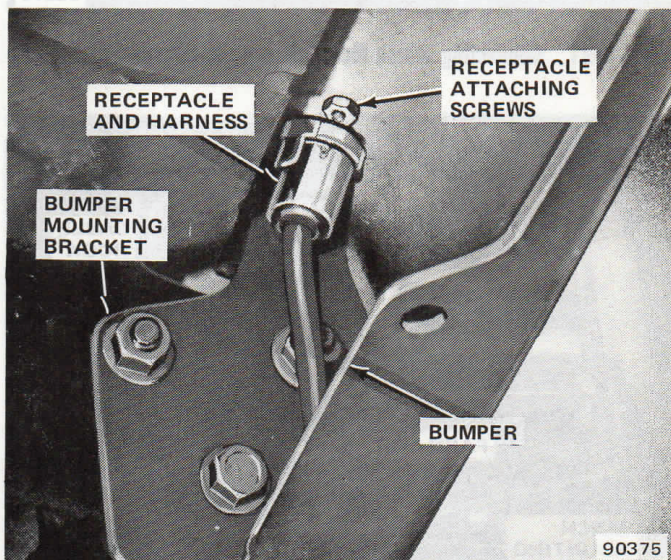

Fig. 5-20 Control Switch Receptacle and Harness Installation
(23) Install control switch receptacle and harness in passenger-side of front bumper (fig. 5-20). Drill a one-inch diameter hole in flat surface at top of bumper. Locate hole 6 inches to left of top bolt at passenger-side of bumper.
(24) Insert control switch receptacle and harness into hole drilled in bumper (fig. 5-20). Drill two additional holes in bumper for 10-24 x 5/8 slotted head receptacle attaching screws. Use receptacle screw holes as drill guides. Attach receptacle to bumper after drilling holes and tighten screws securely (fig. 5-20).